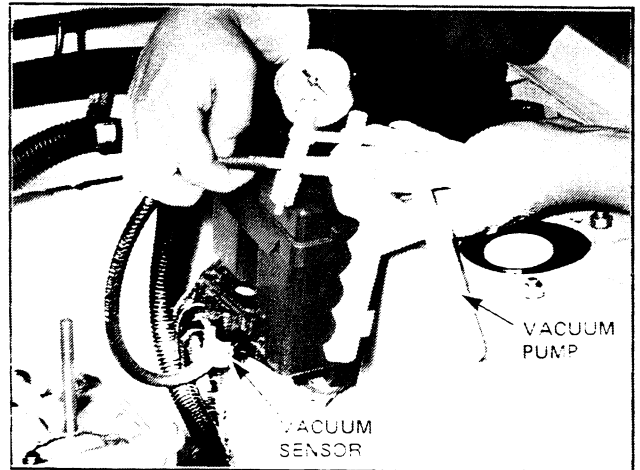

Figure 6D-45
3. Connect a voltmeter across the CB and CA terminals of the sensor. Refer Fig. 6D-46. Switch on ignition.